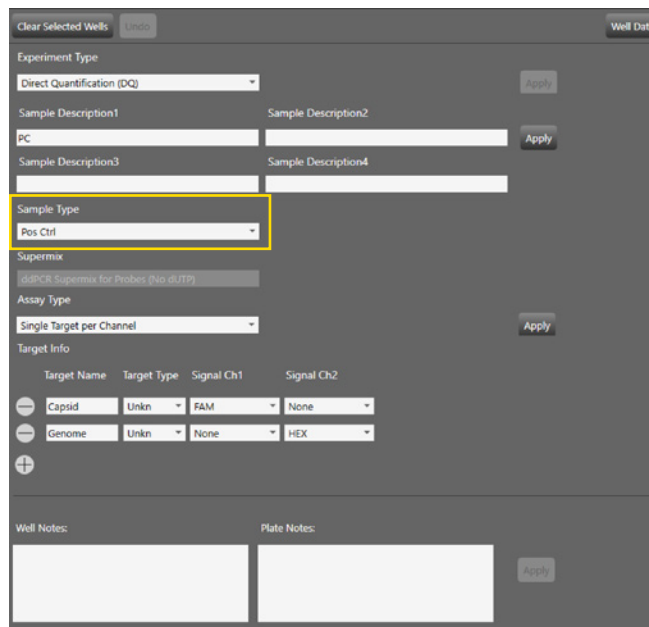

Fig. 2. Example of plate setup in the Plate Editor screen. Positive control wells should have the sample type Pos Ctrl (■).
Press Apply and then Save the template. Press Start Run. See Figure 2 for an example.
1. Ensure that the positive control wells for the assay are marked as having the sample type Pos Ctrl. If necessary, navigate to the Plate Editor tab and select the positive control wells. Under Sample Type, use the dropdown menu to select Pos Ctrl and click Apply to mark the sample type for the selected wells. See Figure 2 for details.